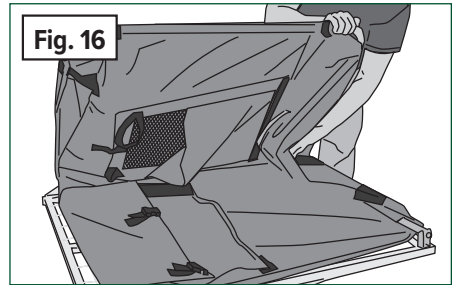

Fig. 16
5. **(Fig. 16)** Release the other side linkage, ***pulling the elbow toward the outside of the frame.*** Fold the side tube down. As you reach the bottom, ***adjust the bag collar so it lies flat*** as you push the side of the collector down.